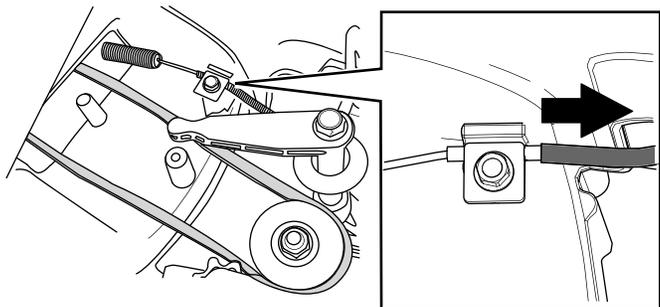

Figure 32
6. Pull the cable jacket to remove slack (Figure 32).